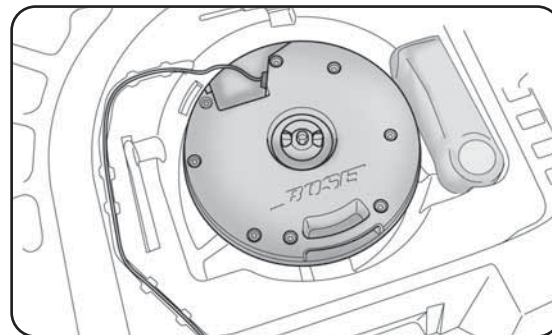

fig. 12
### Subwoofer and "Fix&Go Automatic Kit" fig. 12
- take the automatic Fix&Go Automatic kit located on the right side of the luggage compartment (fig. 12);